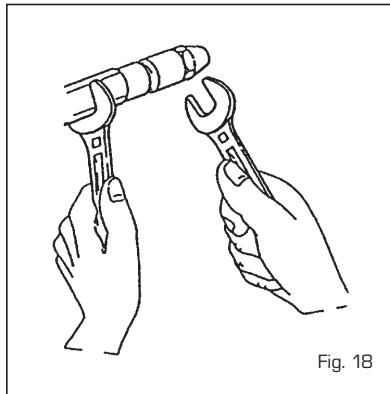

Fig. 18
4.7.3 Substitution of nozzle (fig. 18)
- Block the spray door using a n°19 spanner and unscrew the nozzle with a n°16 spanner [fig. 18].